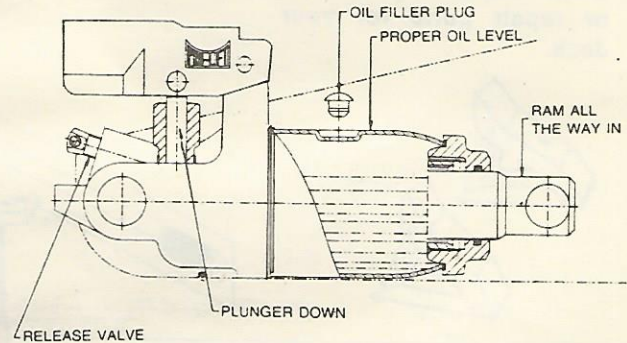

FIG. 3
- Position the jack on level ground and fully lower the saddle. Remove oil filler plug (See Fig. 3).
- Check ram and pump plunger (See Fig. 3) every few months for any signs of rust or corrosion. Clean as needed and wipe with an oily cloth.